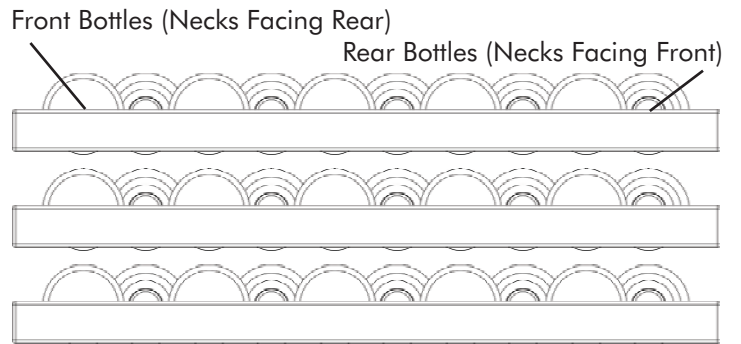

Figure 10
The six (6) roll-out shelves each hold ten (10) bottles. See Figure 10 for typical wine bottle spacing. Tall bottles should not be loaded on the bottom rack because they may prevent the door from closing.